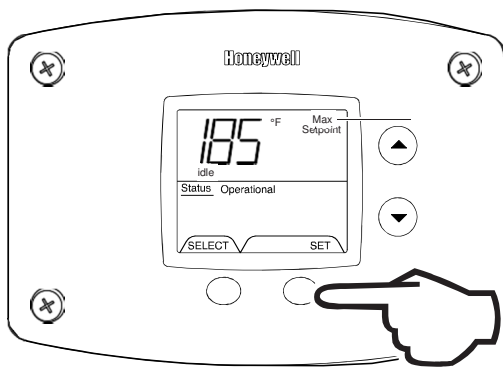

Fig. 41
2. Press 'Set' button to enter setting mode. 'Max Setpoint' will flash to indicate setting mode (Fig. 41).